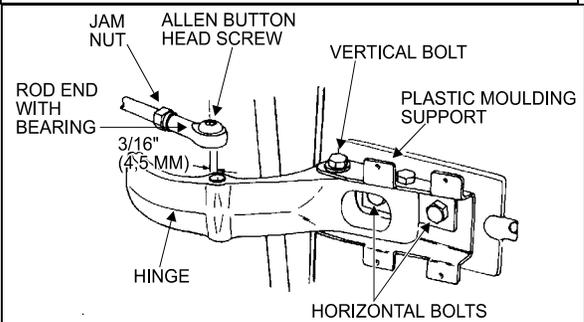

FIGURE 18: UPPER DOOR HINGE (COACH) 18058
In figure 18, if there is an indentation (B) in the dust cap (C) and the cover shows two holes (A), the damper is fitted with a bump rubber (D). If so, fully extend the damper and insert a round bar or screwdriver through the holes. Push the bump rubber down and remove. Remove the split plastic collar (E) (if fitted) from the piston rod.